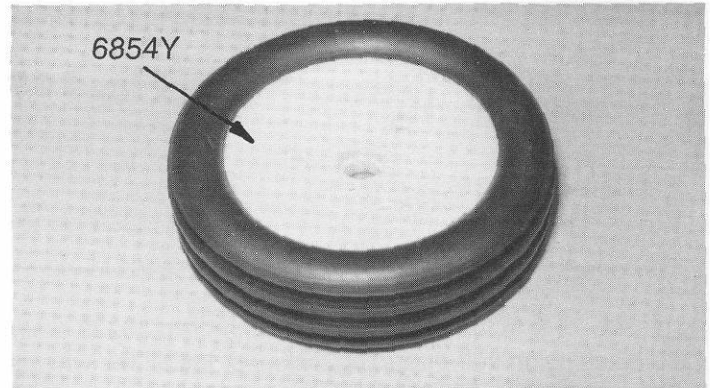

Fig. 141
□ **Fig. 141** Take the outer half of the #6854Y front wheel (which has a small center hole) and fit it into the front tire. Make sure it is seated all the way around, and centered evenly. Do the second tire and wheel.